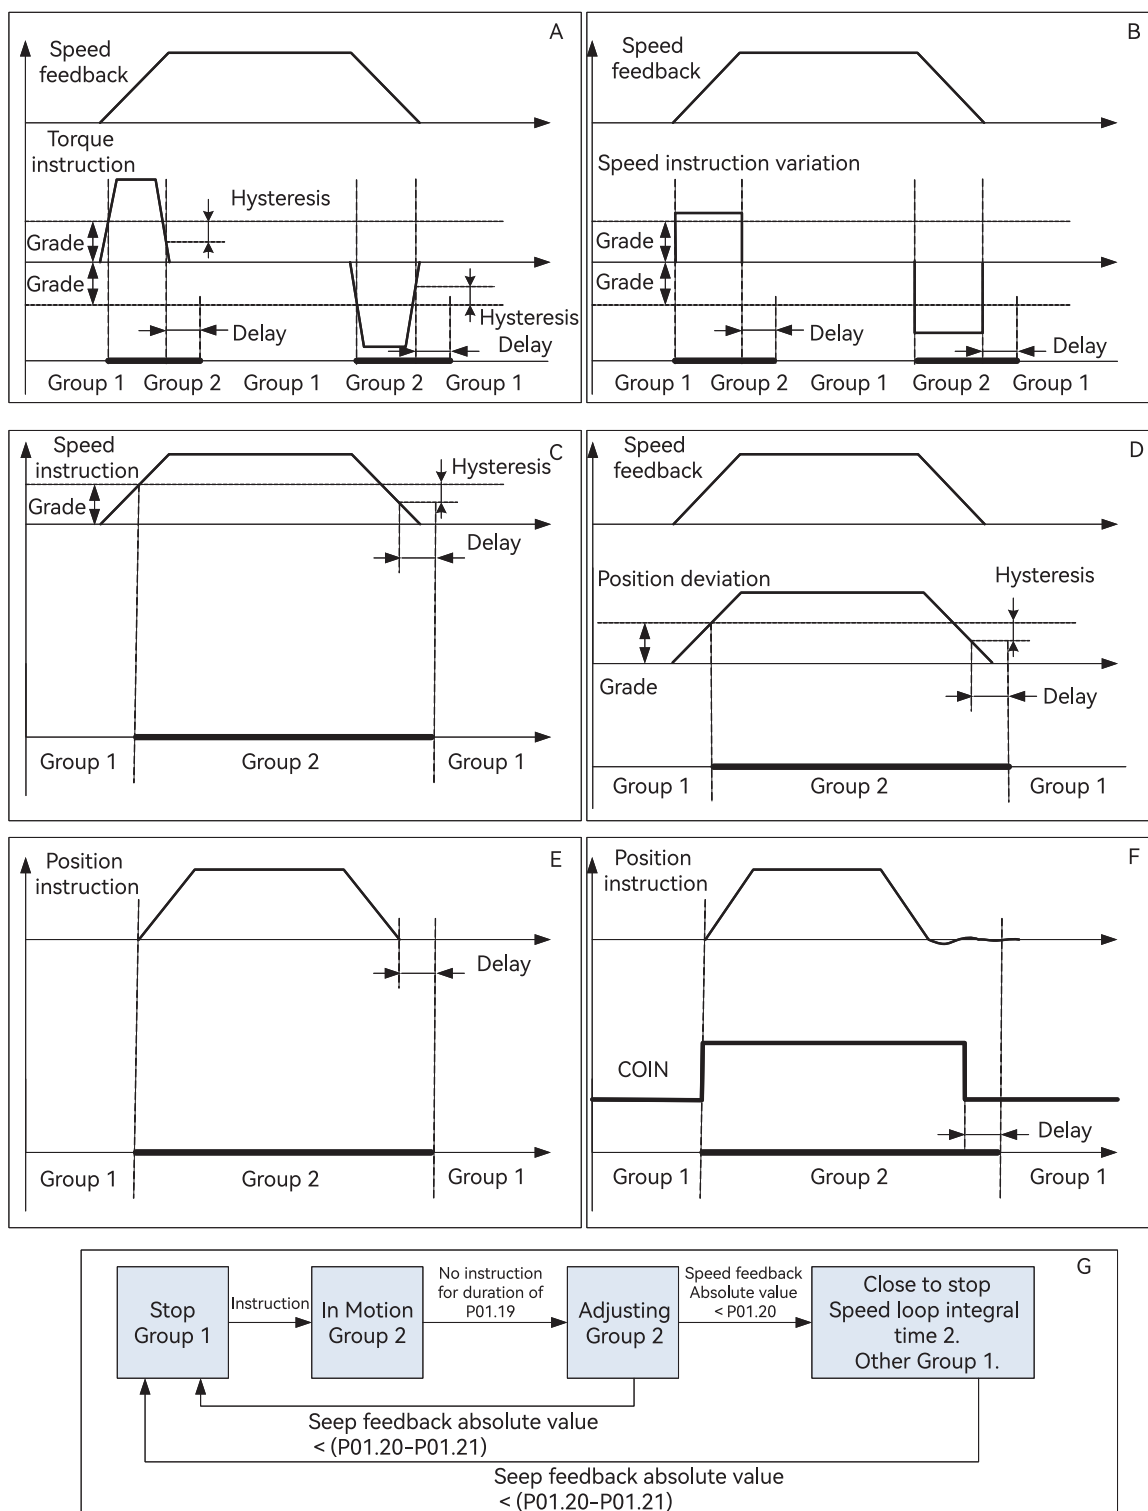

Figure 3.5 Timing diagram of gain switching under various conditions
◆ View the following timing diagrams in numbered order in the figure 3.5:
3. When P01.18 is equal to 10, the definition of each parameter is different from other modes, so please refer to the G diagram in the Figure. 3.5.